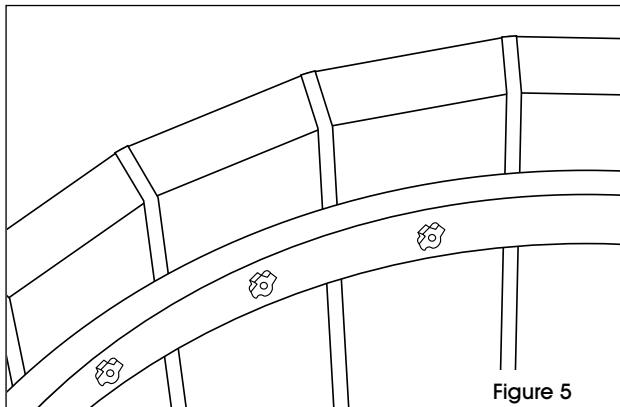

Figure 5
- In the top ring, remove the three finger-tight cap screws, flat washers and tee nuts. Leave the slats in place. (See Figure 5)